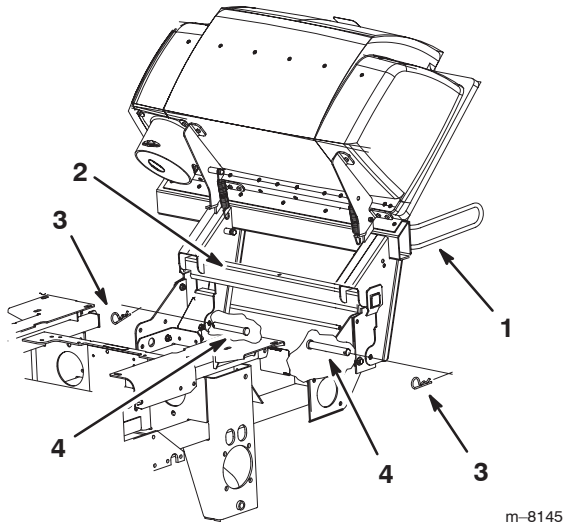

Figure 5
2. Install the 2 clevis pins into the hood assembly and bagger mounting bracket. Secure it with 2 hairpin cotter pins (Fig. 5).